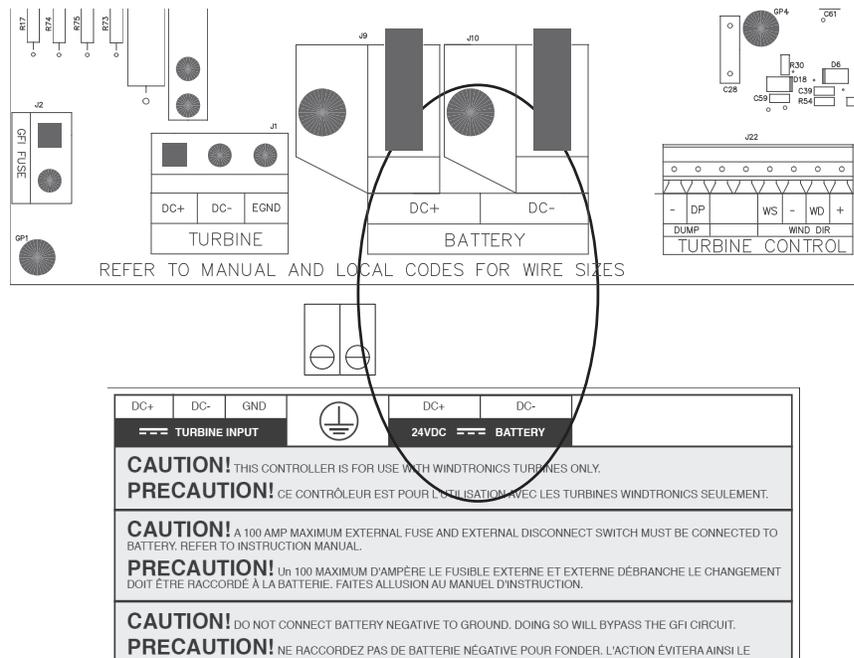

Figure 2.7 Battery Connection Location
7. Run battery wiring. Reference the battery wiring diagram on page 15; Figure 2.7.